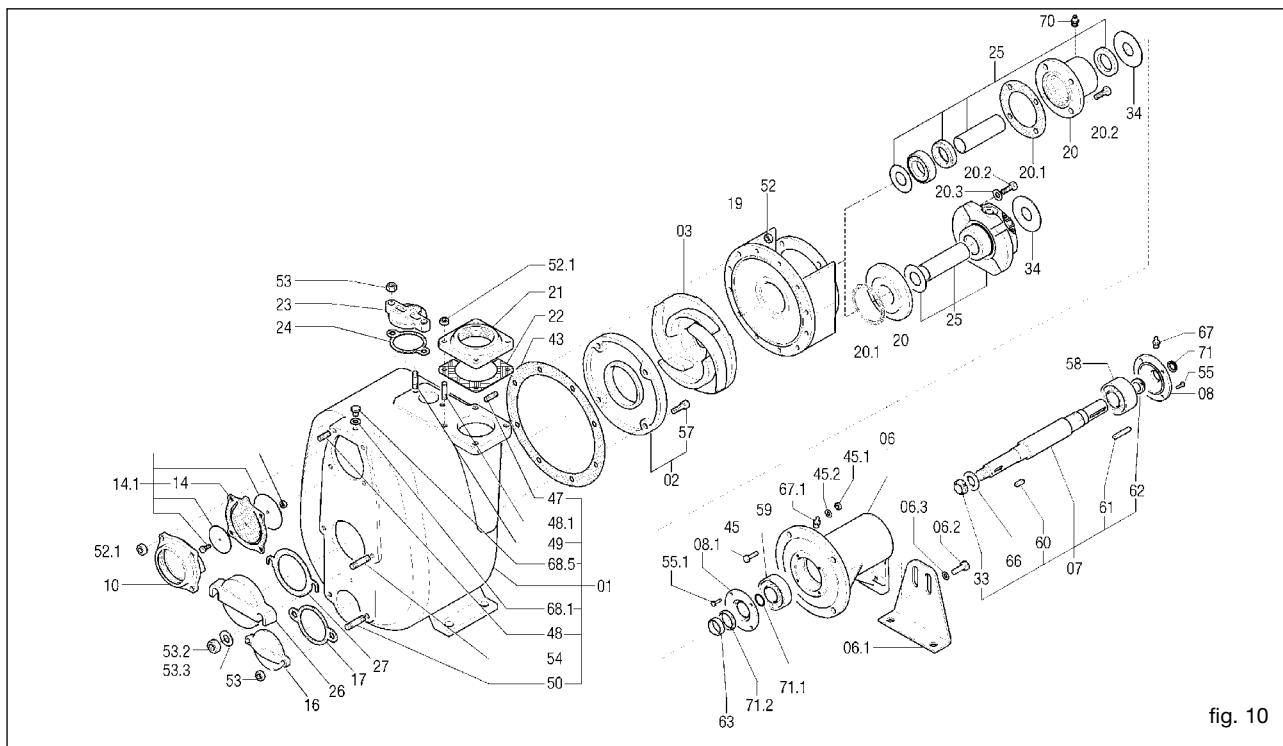
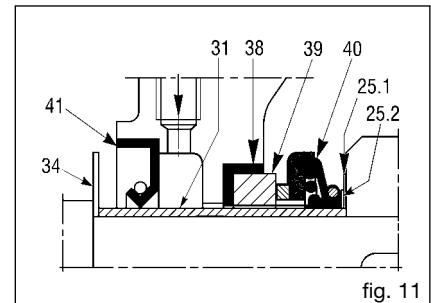

fig. 10
fig. 11
The suction line must have a diameter equal to that of the pump suction port (for diameters greater than that of the pump port, consult Varisco). If possible, avoid curves, elbows and constrictions which can limit the flow of liquid to the pump. Do not install a foot valve: the pump has a non return valve (14) incorporated in the suction port (fig. 10).
An exploded view drawing is provided as an example (fig. 10).
13.2 Replacing the impeller (fig. 10)
- Unscrew the nuts (52) and remove the pump casing, taking care not to damage the casing gasket (43)
- Block the impeller (03) and unscrew the self-locking impeller nut (33)
- If necessary, replace the casing gasket (43)
13.3 Replacing the wear plate (fig. 10)
- Unscrew the wear plate screws (57)
- Remove and replace the wear plate (02)
13.4 Replacing the check valve (fig. 10)
- Slip off the suction flange (10)
- Clean the valve seat of the suction flange (10) and reassemble it
13.5 Replacing the mechanical seal type 1 - 2 - 3 (figs. 10, 11, 12)
- Remove the nuts (52) and remove the casing (01).
- Block the impeller (03) and remove the self-locking impeller nut (33)
- Remove the head (19). The rotating part of the seal (40) mounted on the shaft sleeve (31) will slide off the shaft together with the head
- Remove the stationary seat (39) and its gasket (38) from the head
- Remove the lip seal (41)
13.6 Replacing type 4 - 5 cartridge seals (fig. 10, 13, 14, 15, 16)
- In all models, the distance between the top of the impeller blades and the surface of the wear plate must be between 0.3 - 0.6 mm (fig. 19). For the 12" model, the distance between the impeller and the front and rear wear plates must be between 0.6 - 1 mm (fig. 22). To achieve this, dimensions A and B in figs. 17, 18, 20, 21 must be as nearly as possible equal. To this end, use the shims (25.2) (fig. 11) supplied with spare mechanical seals. These shims are used to move the impeller further forward if it is too far from the front wear plate or too near the rear wear plate. The shims should be mounted between the seal support ring (25.1) (fig. 11) and the impeller. Further adjustments can be carried out using casing gaskets (and rear wear plate gaskets on models which fit these). The presence of the casing gasket (43) (fig. 10) 0.5 mm thick then creates the correct distance (fig. 19).
13.8 Maintenance of the bearings (fig. 10)